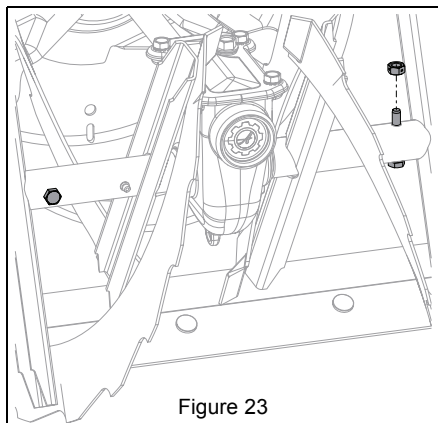

Figure 23
1. Remove shear bolt nuts and bolts. See Figure 23.
See Figure 23.